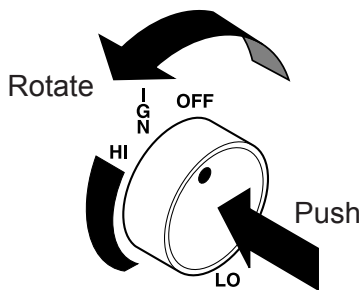

Figure 34 - IGN Position
6. From OFF position, push in gas control knob slightly and turn counterclockwise  to the IGN position. See *Figure 34*. Push in and hold control knob for 5 seconds.
4. See *Figure 34* for the location of the piezo ignitor and control knob. Push in gas control knob slightly and turn control knob clockwise  to the OFF position.